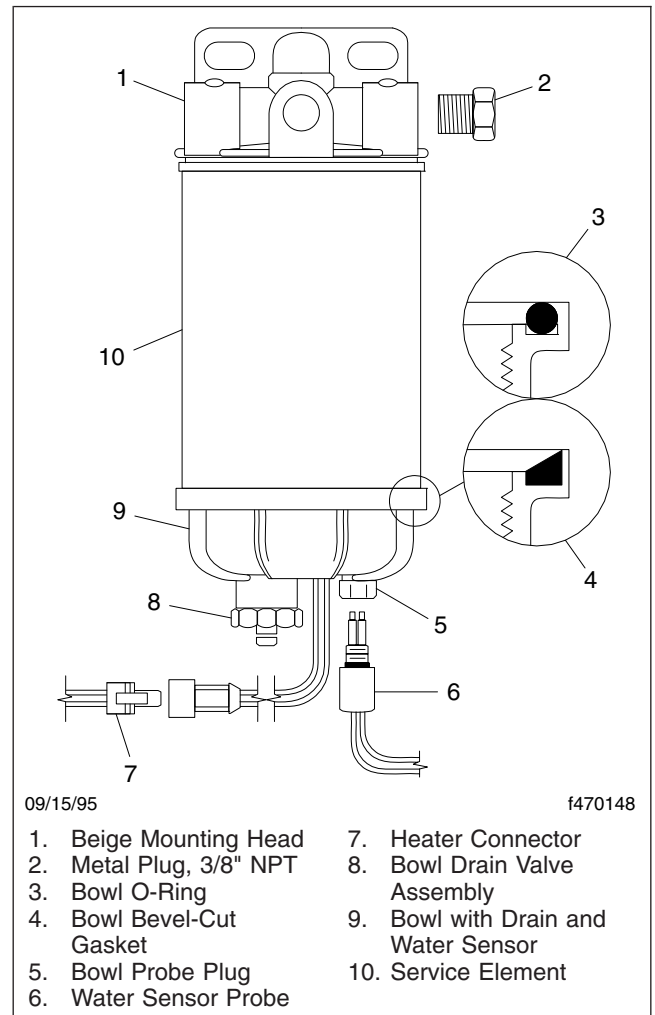

Fig. 3, Racor 690 Fuel Separator
- 8.1 Remove the 3/8-inch metal plug located at the top of the fuel/water separator (see Fig. 3, Ref. 2), and manually fill the unit with diesel fuel.